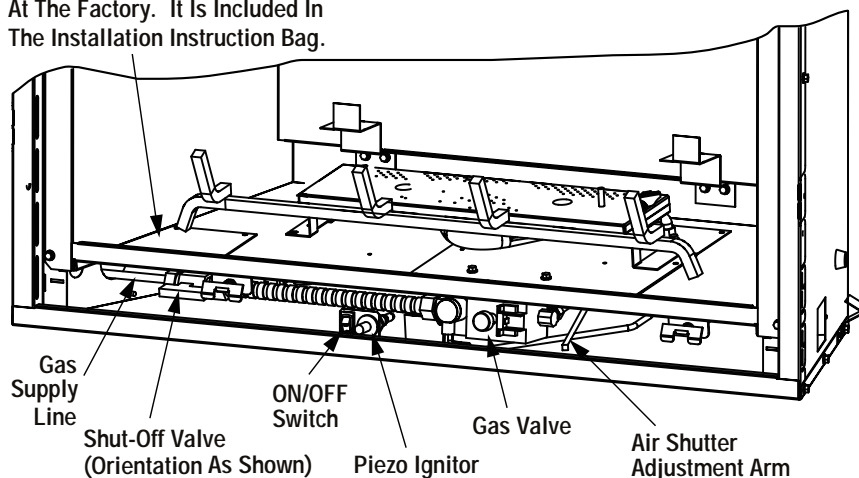
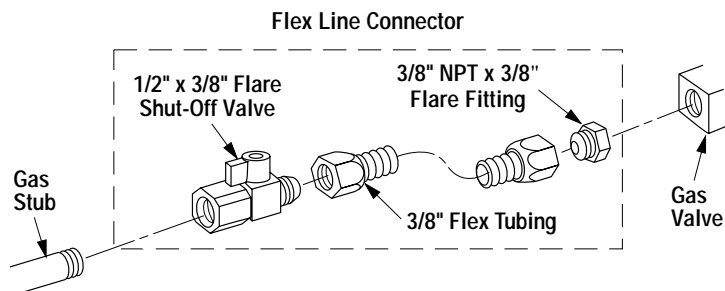

Figure 39
Figure 38 - GAS CONNECTION
All codes require a shut-off valve mounted in the supply line. The orientation of the shut-off valve should face the front, as shown in *Figure 39*. *Figure 38* illustrates the method for connecting the gas supply.
The gas flex line can only be used where local codes permit. See *Figure 38* for flex line description. The flex line is rated for both natural and propane gas. A manual shut off valve is also provided with the flex line.
If required, access the valve by removing the lower control compartment panel (see *Figure 39*) by lifting and pulling the panel forward. The millivolt and electronic control valve has a 3/8" (10 mm) NPT thread inlet port.
Remove the gas line access plate and gasket from the provided plastic bag and install them over the opening, using the provided screws (4) as shown in *Figure 39*.
With gas line installed run initial system check-out before closing up the front of the unit. Follow the pilot lighting instructions provided in the Homeowner's Care and Operation Instructions. For piezo ignitor location see *Figure 39 on page 23* (millivolt appliances only).
Note: Lighting Instructions are also found on the literature tag tied to the gas piping next to the gas valve. To access the tag, open the lower control compartment door (Figure 39 on page 23) by pulling the panel forward.
Observe the flame continuously. If it appears weak or sooty as previously described, adjust the air shutter by rotating the adjustment arm up or down (*refer to Figure 39*) until the flame appearance is as desired.